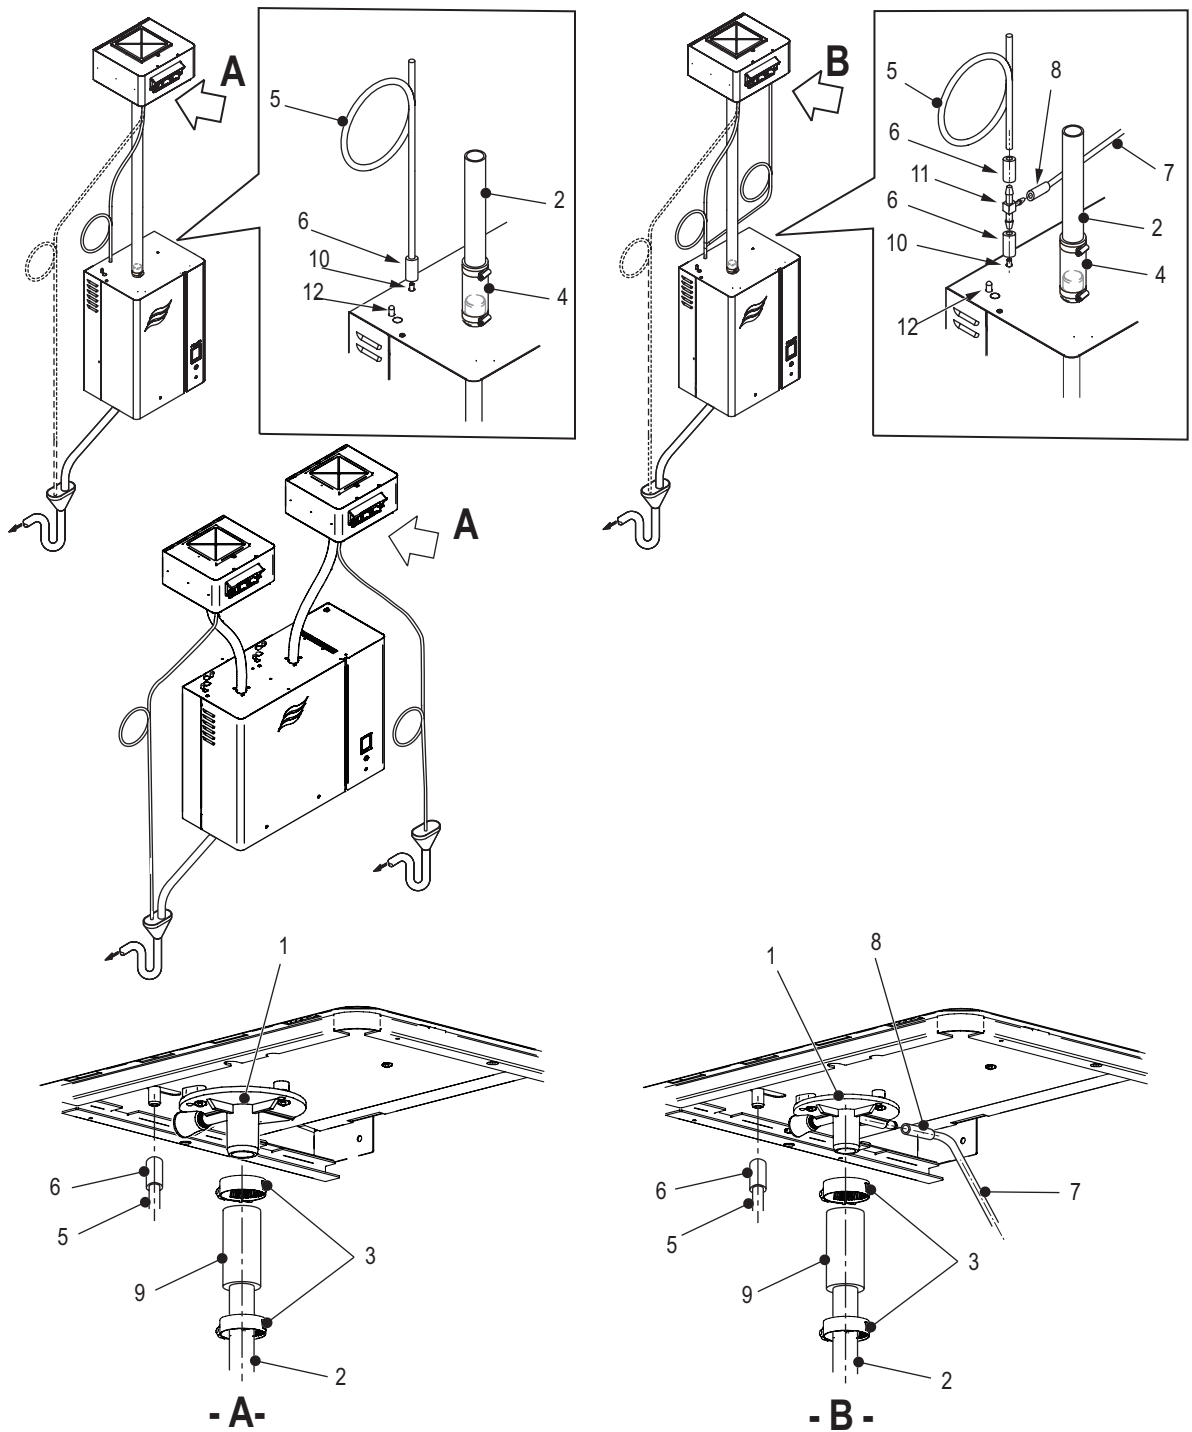

Figure 10: Steam and Condensate Line Connections on Nortec BP. A - Large, B - Small.
- a. Plumb the steam line (supplied by others) and connect it to the steam adaptor on the Nortec BP with a short length of bulk steam hose and two hose clamps (supplied). Refer to Figure 10 on page 29. If using a Condair steam hose, connect it to the steam adaptor with a hose clamp (supplied). Do not over-tighten the hose clamps – maximum torque is 16 in·lbs (180 N·cm).
- a. Connect the condensate line from the Nortec BP-Series blower pack to any of the following drain connections. Refer to Figure 10 on page 29.
For a 7/8 in (22.5 mm) steam adaptor: connect the 3/8 in (9.5 mm) and 3/16 in (4.5 mm) condensate lines to a tee connector with short lengths of bulk hoses and spring clamps. Ensure that the tee connector is installed after the condensate traps, and connect the tee connector to any of the locations listed above. Refer to Figure 10 on page 29.
- a. Connect the other end of the steam line to the steam outlet on the humidifier with a short length of bulk steam hose and two hose clamps. If using a Condair steam hose, connect it to the steam outlet with a hose clamp (supplied). Refer to Figure 10 on page 29. Do not over-tighten the hose clamps – maximum torque is 16 in·lbs (180 N·cm).